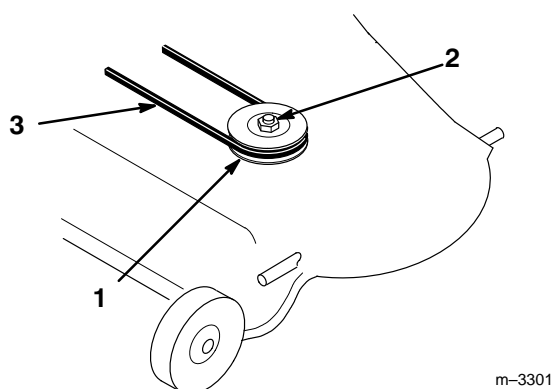

Figure 37
1. Pull on the mower idler assembly to release the belt tension and remove blade drive belt from right side pulley (Fig. 37).
2. Remove nut and lock washer from right hand blade spindle (Fig. 37). Remove the double pulley.
3. Slide the single pulley (removed when bagger was installed) onto the spindle shaft. Secure with previously removed lock washer and nut (Fig. 37).
5. Install the existing mower belt by rotating it onto the pulley (Fig. 37).